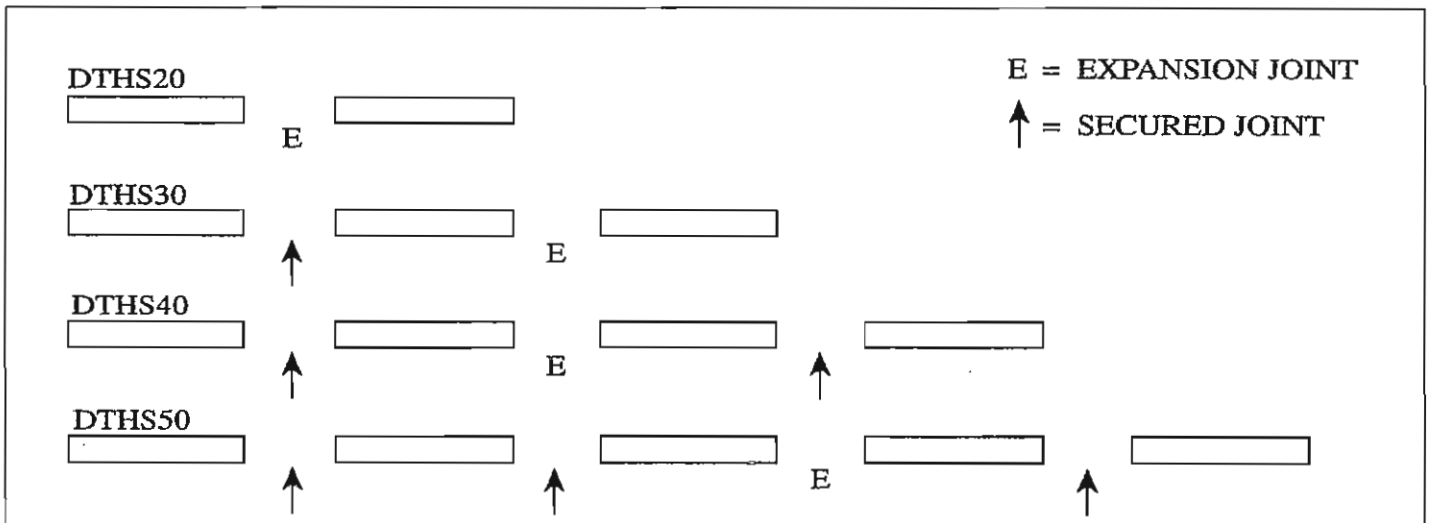

Figure 1-13
3. Secure reflectors together with supplied reflector clips at points indicated by arrows (see Figure 1-13). Make sure to leave an expansion joint.